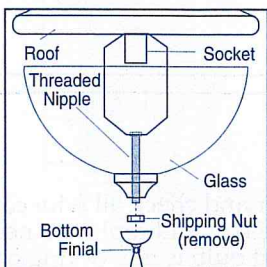

Figure 9
- For bottom spindle assembly, if necessary, carefully unscrew shipping nut or bottom finial, remove glass cage and insert bulb(s). Carefully install glass over spindle by positioning glass up under roof. Secure glass by screwing finial onto threaded nipple (see figure 9).